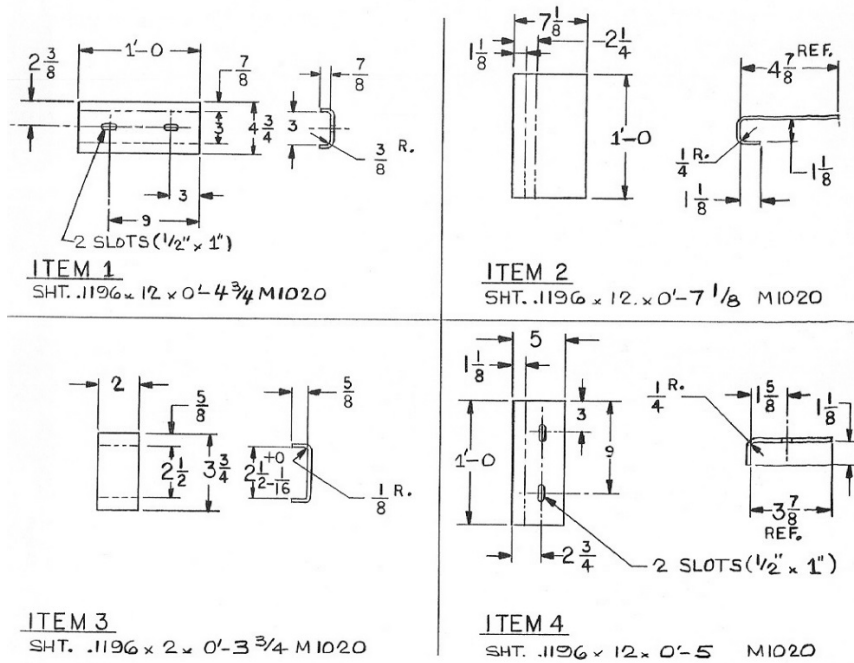
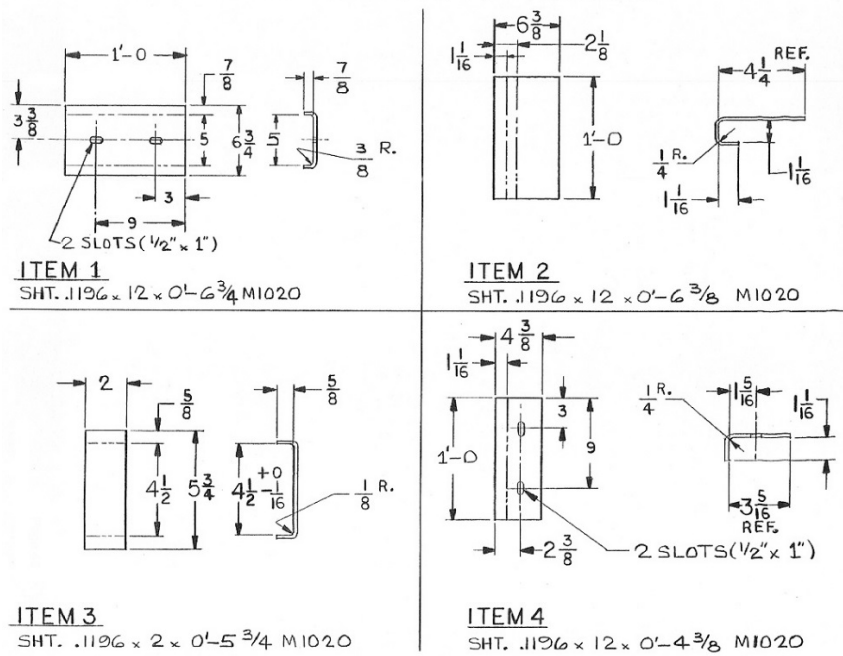

Figure 10.
Figure 11.
8. Refer to Figure 10 for bi-level and tri-level parts or Figure 11 for ABL parts.
9. Apply a reinforcement piece over the hat section on the inside of the door. (Figure 10 or 11, Item 1.) Apply and weld per the attached sketch. Reapply the weld tabs if removed.
10. If the crack exists around the curled nose edge of the door and into the flat portion, Figure 10 or 11, Items 2 and 4 will need to be applied.
16. The procedure is the same for either the ABL, the bi-level, or the tri-level, but the size of the four items varies. (See Figure 10 for bi-level and tri-level parts or Figure 11 for ABL parts.)